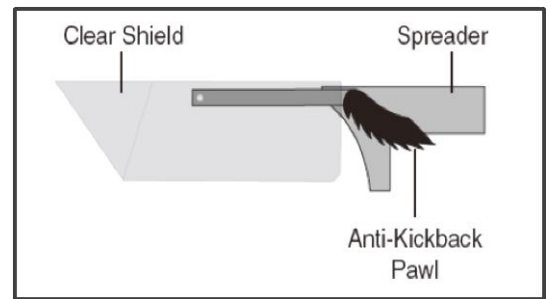

Figure 21. Blade Guard Assembly Components
**Blade Guard** refers to the assembly that consists of the guard, spreader, and anti-kickback pawls (see Figure 21)